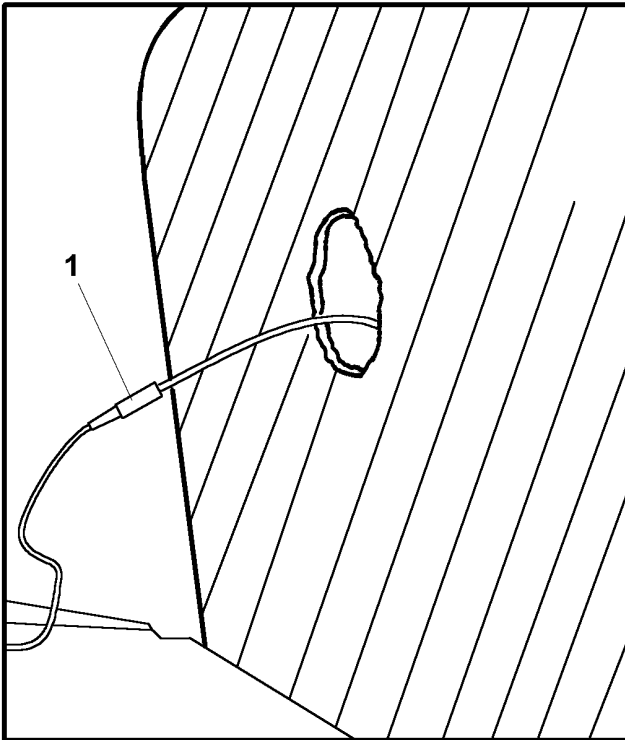
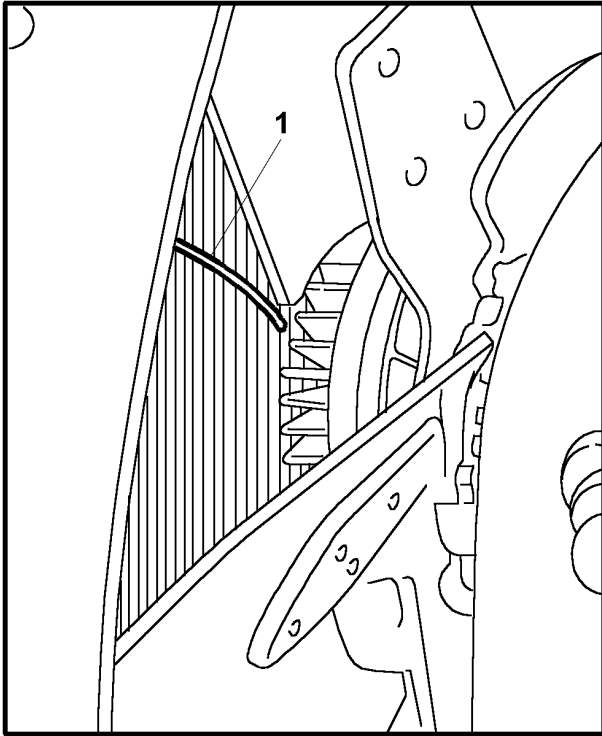

Figure 2 Temperature Probe Inserted through Cardboard and Front of Radiator
Figure 3 Positioning of Temperature Probe
13. Carefully position the temperature probe so that it measures air temperature within 1 inch (2.54 cm) of the fan drive bi-metal or coil. You can safely insert the probe through the A/C condenser, CAC, and radiator core (Figure 2 and Figure 3) .